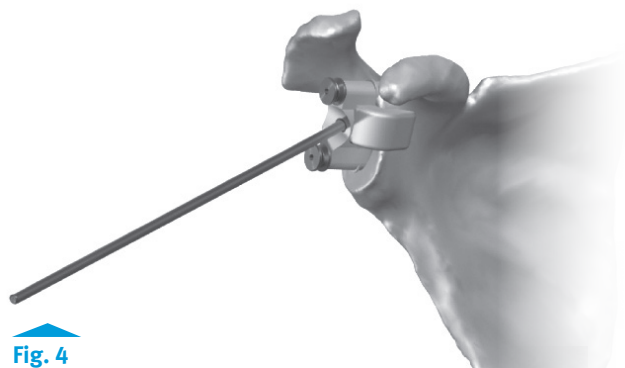

Fig. 4
**OPTIONAL:** The Threaded Alignment Rod may be used to aid in the placement of the PSI Pin Guide. Thread the Alignment Rod into the PSI Pin Guide containing the two bushings and use it as a handle to position it on the surface of the glenoid (Fig. 4). By gently pushing medially and posteriorly, the guide should “lock” onto the face of the glenoid without toggling. Common errors in placement may cause the guide pins to be placed aiming anteriorly.